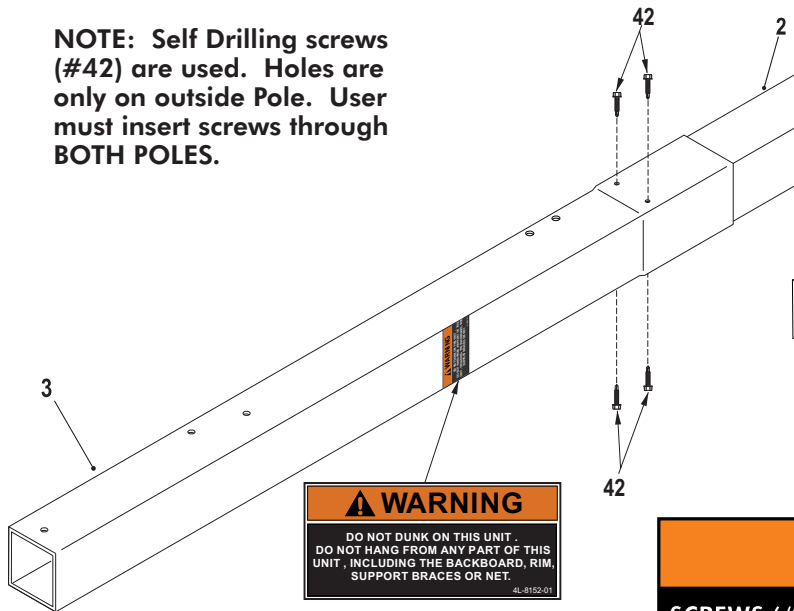

Figure 4
- Once the Top pole is to the 6" Mark on the Warning Sticker, lay Pole Assembly on its side on two padded saw horses. Insert a (#42) Screw into each 3/16" hole in top Pole, two on each side of the Post Assembly. You will need someone to hold the Pole assembly while inserting screws. Screw must go through both Top and Bottom (Inner) Poles. Make sure to not strip screws once they are all they way through. See **Figure 4**.